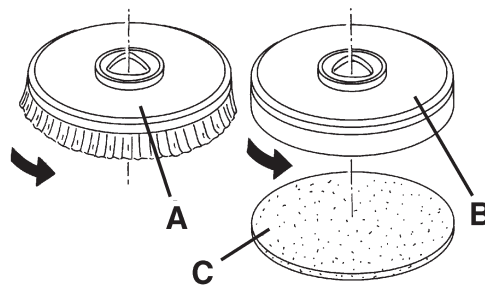

Figure 1
1. Disconnect the power supply cable (3) from the electrical mains.
2. Place the brush (A, Fig. 1) or the pad-holder (B) under the deck (14).
3. Lower the deck on the brush/pad-holder by pressing the pedal (8).
4. Connect the power supply cable (3) to the electrical mains.
5. Press the switch (51) to turn on the machine and the accessories.
6. Press one of the switches (55) to engage the brush or the pad-holder.